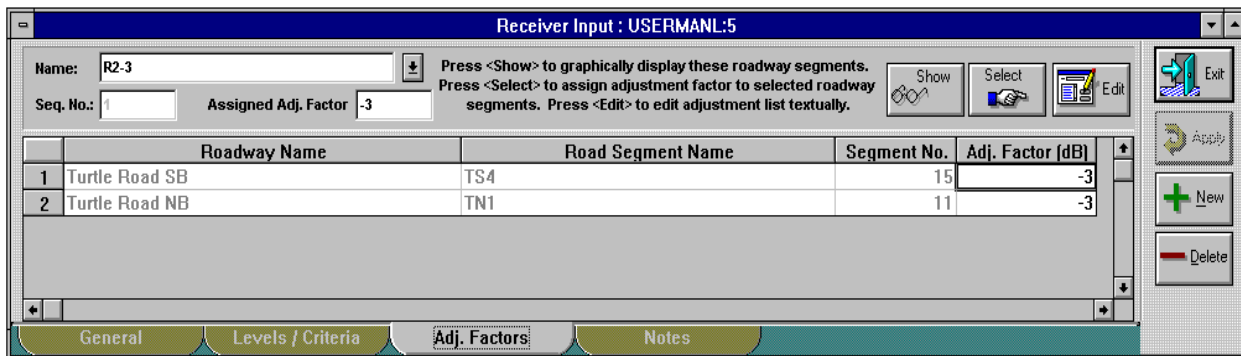

Figure 29. Receiver input: Adjustment Factor tab.
- Select  on the receiver input dialog (see Figure 29).